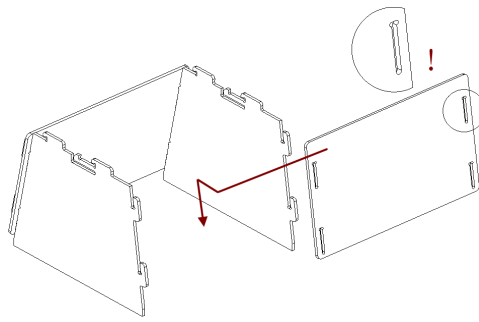

Figure 11.15.: Assembling the back wall.
2. Install the back wall in the same way (see Figure 11.15.).